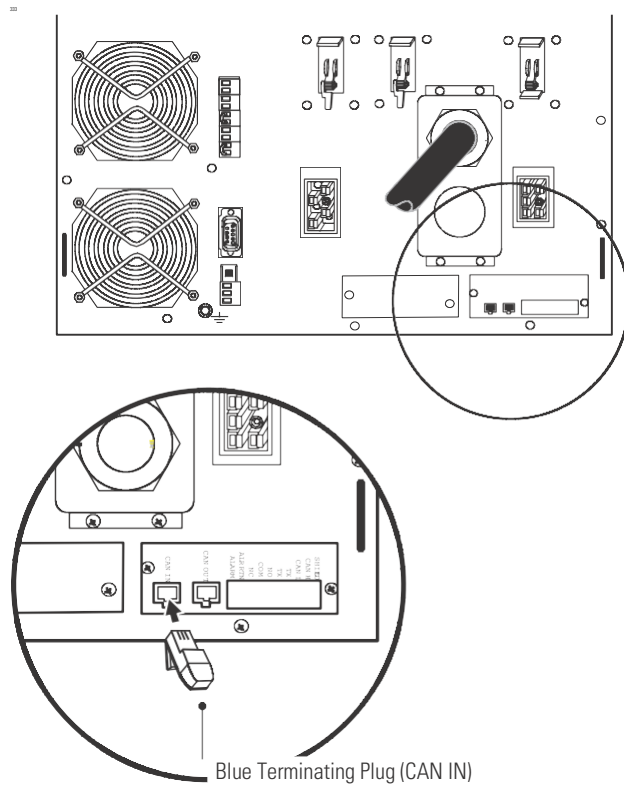
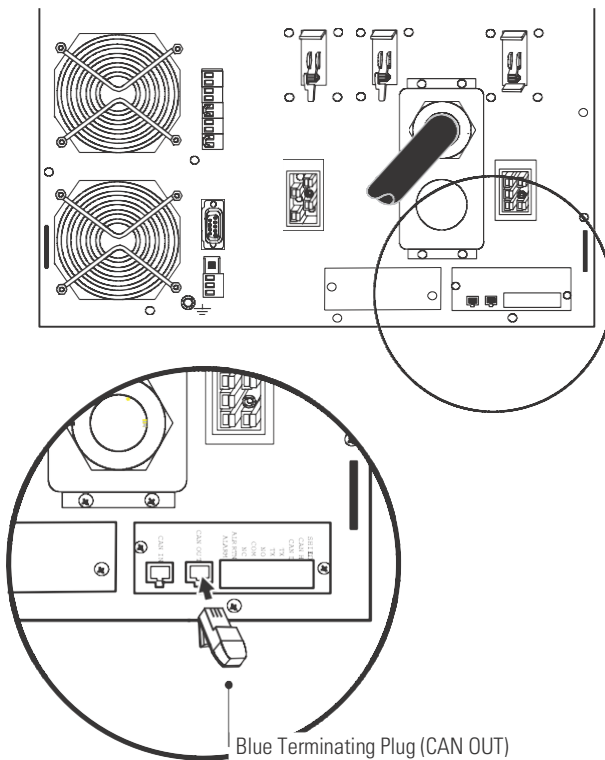
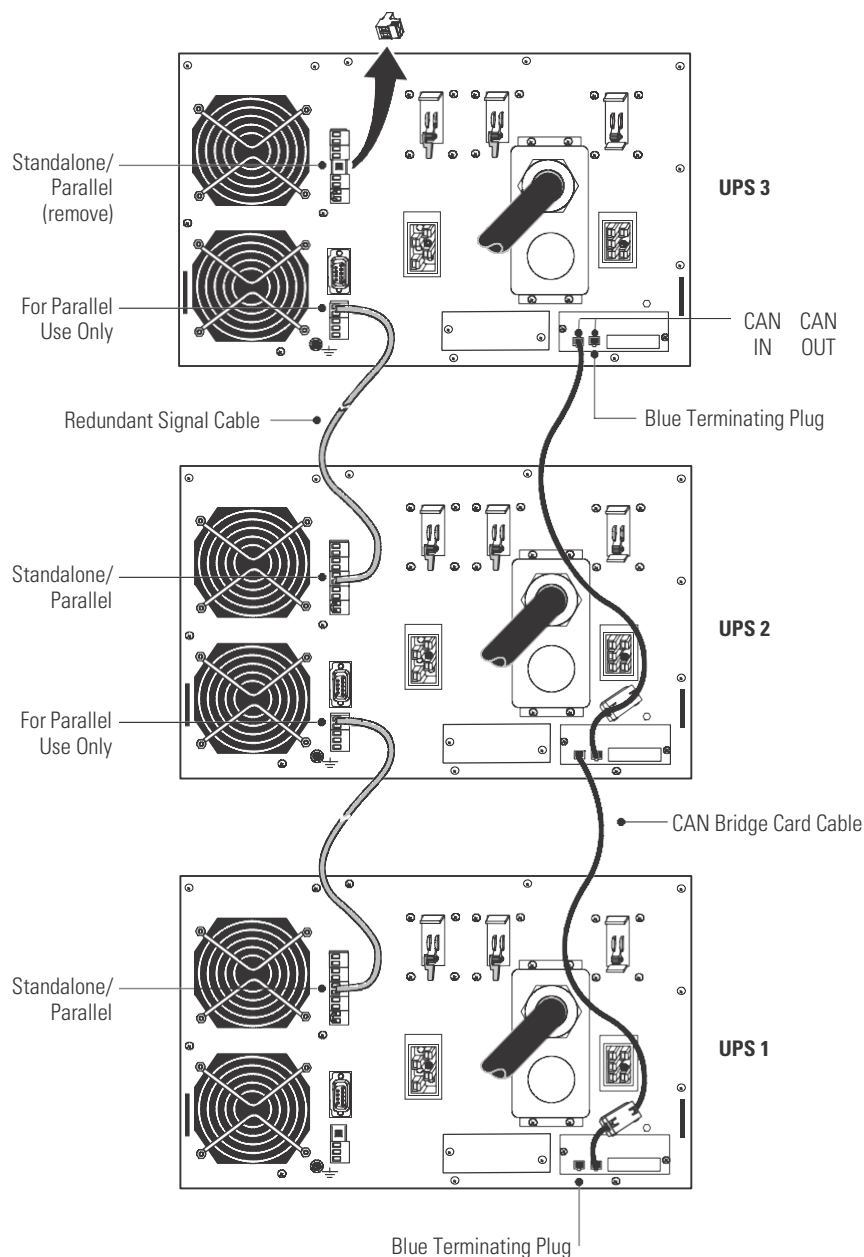

Figure 65. Installing the Blue Terminating Plug (First UPS)
Figure 66. Installing the Blue Terminating Plug (Last UPS)
Figure 67. Typical CAN Bridge Card and Redundant Signal Wiring
9. Install one of the two supplied blue terminating plugs (see Figure 65) into the CAN IN port on the first UPS (UPS 1 in Figure 67).
10. Install the second supplied blue terminating plug (see Figure 66) into the CAN OUT port on the last UPS (UPS 3 in Figure 67).
12. Using the supplied connectors, install a CAN Bridge Card cable between each UPS as shown in Figure 67, connecting the CAN OUT port on one UPS to the CAN IN port on the next UPS.
You can configure the parallel system with UPS 1 at the bottom of the rack (as shown in Figure 67) or at the top of the rack.
- 13.** Install a redundant signal cable between the For Parallel Use Only and Standalone/Parallel terminals on each UPS as shown in Figure 67.
14. Remove the Standalone/Parallel terminal block connector from the last UPS (UPS 3 in Figure 67).
20. Connect the parallel input cord from each paralleled UPS, as shown in Figure 67: